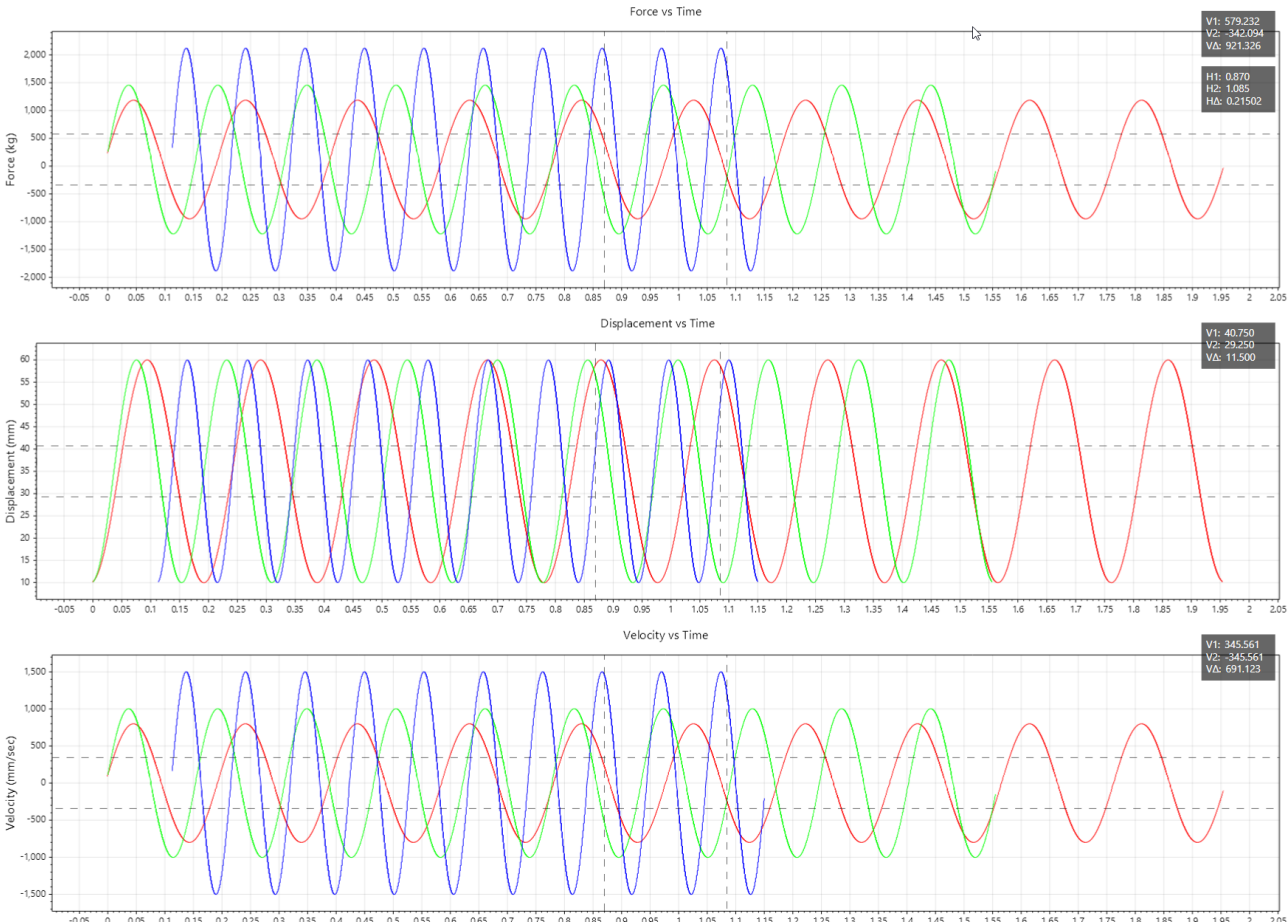

Figure 29
6. The user is also allowed to manually set the minimum position of the damper (Figure 29 – Step 6)
The user is also allowed to move the graphs in horizontal axis by clicking on **Move graphs:** then, clicking on and dragging the desired graph. Comparison between original and moved graphs is showed in the Figure 29 below.